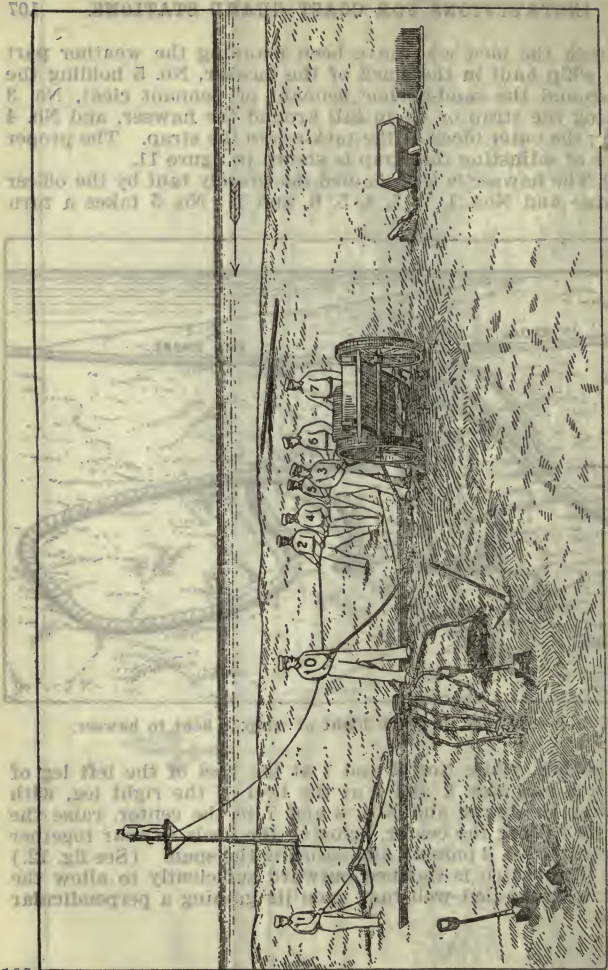
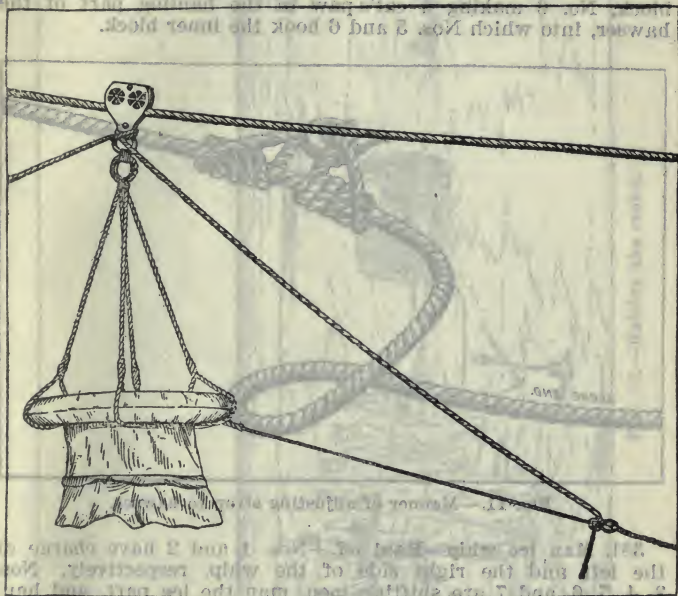

FIG. 9.—Hauling off hawser.
FIG. 10.—Manner in which whip is attached to breeches buoy.
(14) The men man the weather part of the whip, excepting the lee man (No. 1 or No. 2), who tends the lee part of the whip, keeping it clear of the hawser, which will drift to leeward of it, and the lee man (No. 3 or No. 4), who hauls the whip from the reel. The officer in charge hauls the hawser from the cart and lights it to the surf. (See fig. 9.)
(15) The hawser having reached the wreck, the lee man (No. 1 or No. 2) holds the breeches-buoy block while the officer in charge throws over it a clove hitch with the bight of the weather part of the whip, and hauls it snug around the neck. The block is then snapped on the hawser by the holder, and the officer in charge bends the buoy bridle into the whip, *inshore* of the buoy, with a bowline knot.
(16) If the wooden buoy block is used, the buoy is passed down through the loops of the clove hitch and the hitch hauled very snug around the neck of the block. (See fig. 10.)
(17) When a threefold purchase is used the pennant block is dispensed with, and as soon as the hawser is made fast to